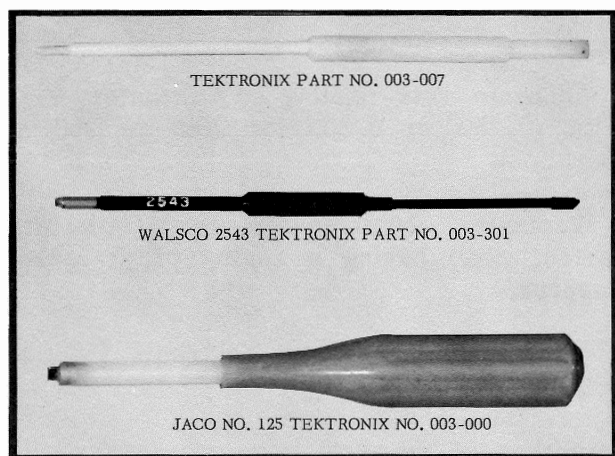

Fig. 6-1. Handtools necessary for calibrating the Type RM17 oscilloscope.
8. Insulated alignment tools. See Fig. 6-1.